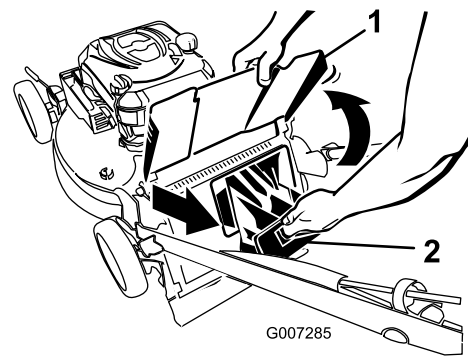

Figure 21
2. Raise and hold up the discharge deflector (Figure 21).
3. Pull out the rear discharge plug (Figure 21).
2. Pull out the rear discharge plug (Figure 21).